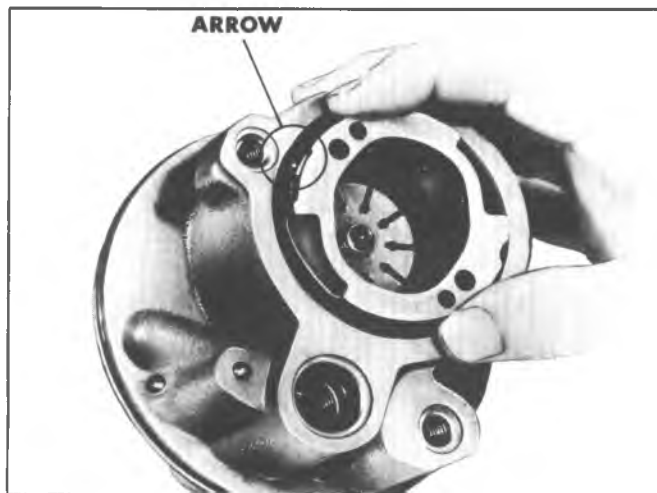

Fig. 3B-10B--Installing Pump Ring
20. Install pump pulley by inserting tool J-25033 through pulley hub and threading the bolt into the power steering pulley shaft as shown in figure 3B-16B.